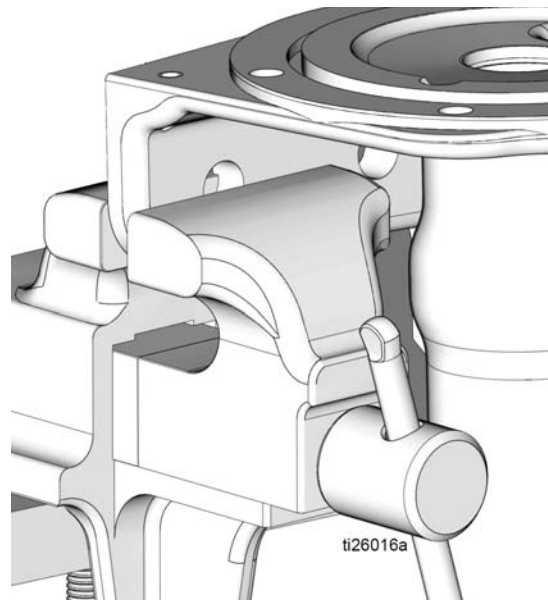

FIG. 32
1. Use a clean cloth to wipe down the pump base (1) and remove any dirt or contaminants. Inspect surface for any scratches or damage. Replace the pump if the pump base is damaged.
2. If necessary, reposition the pump base (1) in the vise as shown in FIG. 32.